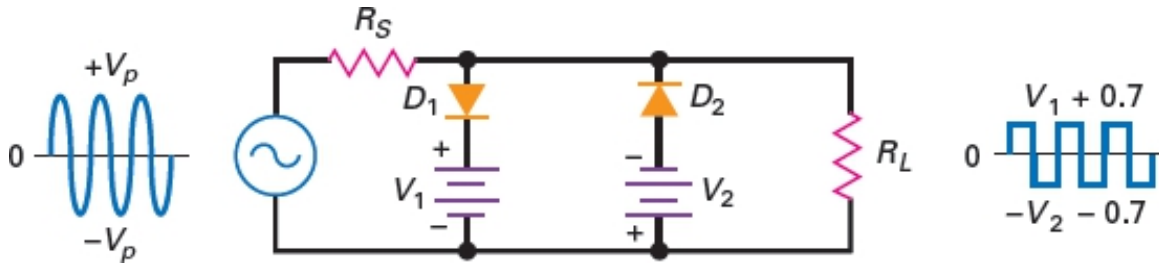

Figure-75 Biased positive-negative clipper
- We can combine the two biased clippers as shown in Figure-75. Diode D_1 clips off positive parts above the positive bias level, and diode D_2 clips off parts below the negative bias level.
- When the input voltage is very large compared to the bias levels, the output signal is a square wave, as shown in Figure-75.